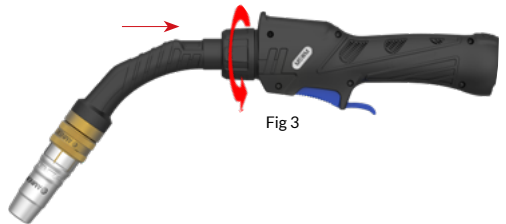

Fig 3
- Assemble swan neck to swan neck holder and screw tight. (Fig 3)
- Reposition and tighten the liner retaining nut. (Fig 3, 4)